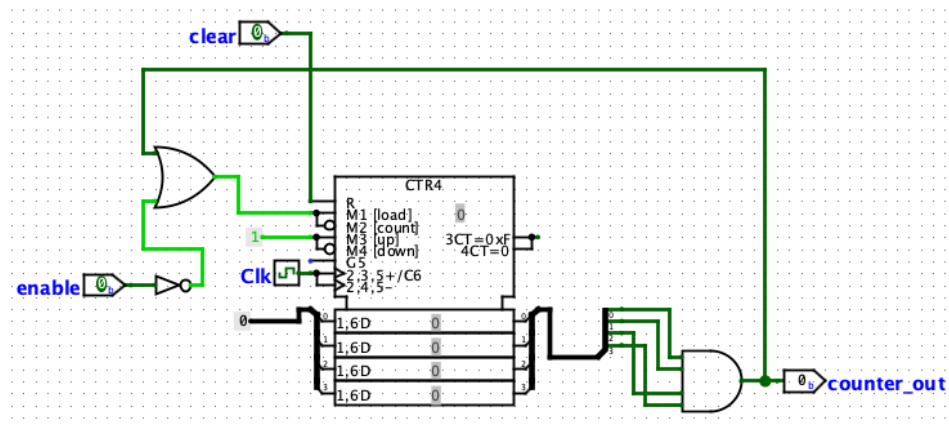

Figure 2: Counter in Logisim
Figure 2 shows an example of a counter in Logisim that counts in hexadecimal from 0 to  $F$ . You can find this counter in *Memory > Counter*.
1. The AND gate on the right side of Figure 2 performs two tasks: it turns on the output *Enable* signal once the counter reaches a certain value and it performs a parallel load of a new counter value (specified by you) on the next clock cycle. This is one way to make the *RateDivider* counts a certain number of clock cycles before turning on the enable signal. Using this idea, changing the frequency of the new clock signal would just involve changing the value you load into the counter.
- This counter design in Figure 2 is provided for you and you can use it as a model to build your counters.